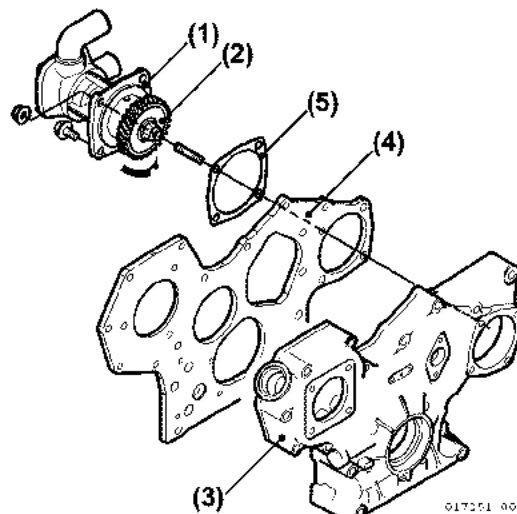

Figure 5-172
48. Install the seawater pump assembly and gasket to the gear case (Figure 5-172) and (Figure 5-173).